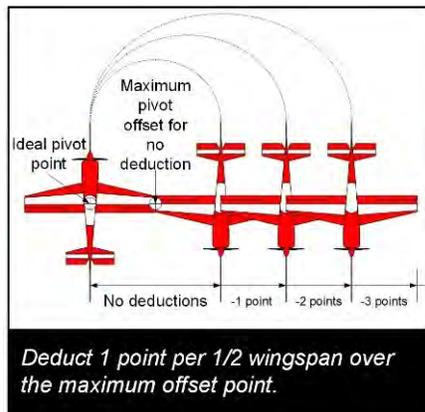

Figure 22
When rotating at the top of the maneuver, ideally, the aircraft pivots around its center of gravity. To avoid a deduction, the aircraft must pivot around an axis point, which cannot be farther away from its center of gravity on the vertical up line than its wingtip ( $\frac{1}{2}$  wingspans). The downgrade for this deviation is one (1) point per half wingspan that the point of rotation exceeds the maximum allowed (Fig 22).